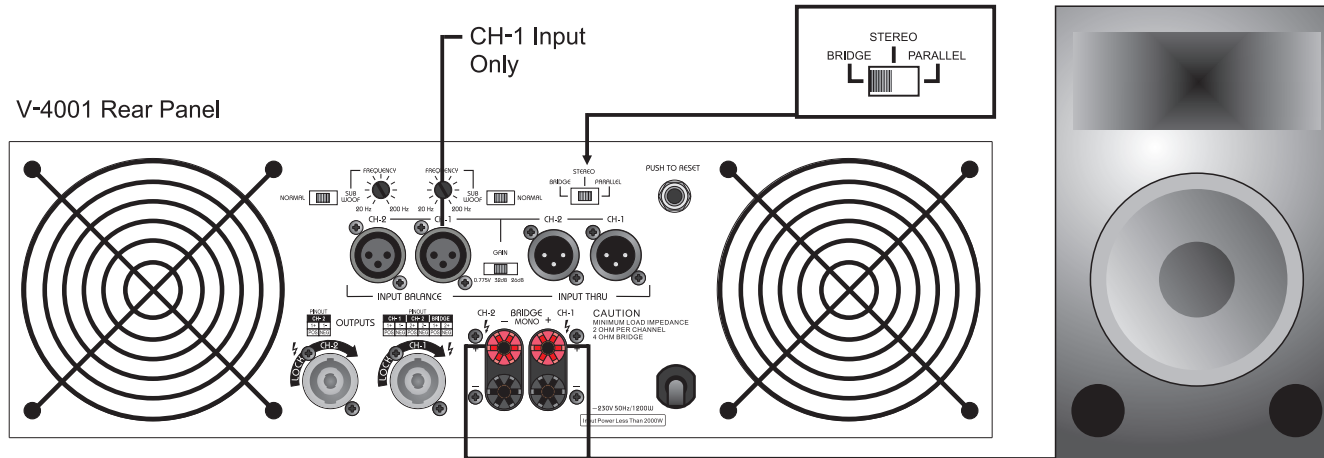

Figure 12 TYPICAL MONO BRIDGE SET-UP
**MONO BRIDGE OPERATION:** Page 10/ Figure 12 details a mono bridge set-up. Be sure your amplifier and all other audio equipment are powered down. Flip the Parallel/Stereo/Mono Bridge switch to the Mono Bridge position. Connect an input signal to channel one. Connect your speaker across the red output binding post on the rear of your amplifier. Turn your equipment on (your amplifier should always be the last item you turn on). Apply an input source signal to your amplifier. Use the channel one gain control to regulate your amplifier output.